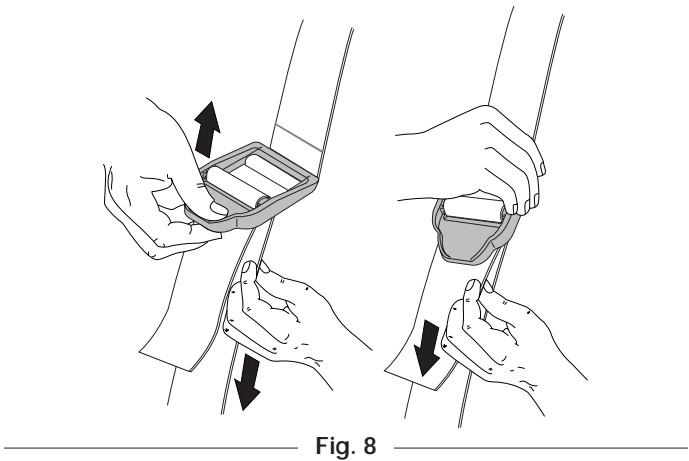

Fig. 8
4. While standing in the operating position with the unit off, adjust length to fit the operator's size. Pull tab to lengthen, pull strap to shorten (Fig. 8).